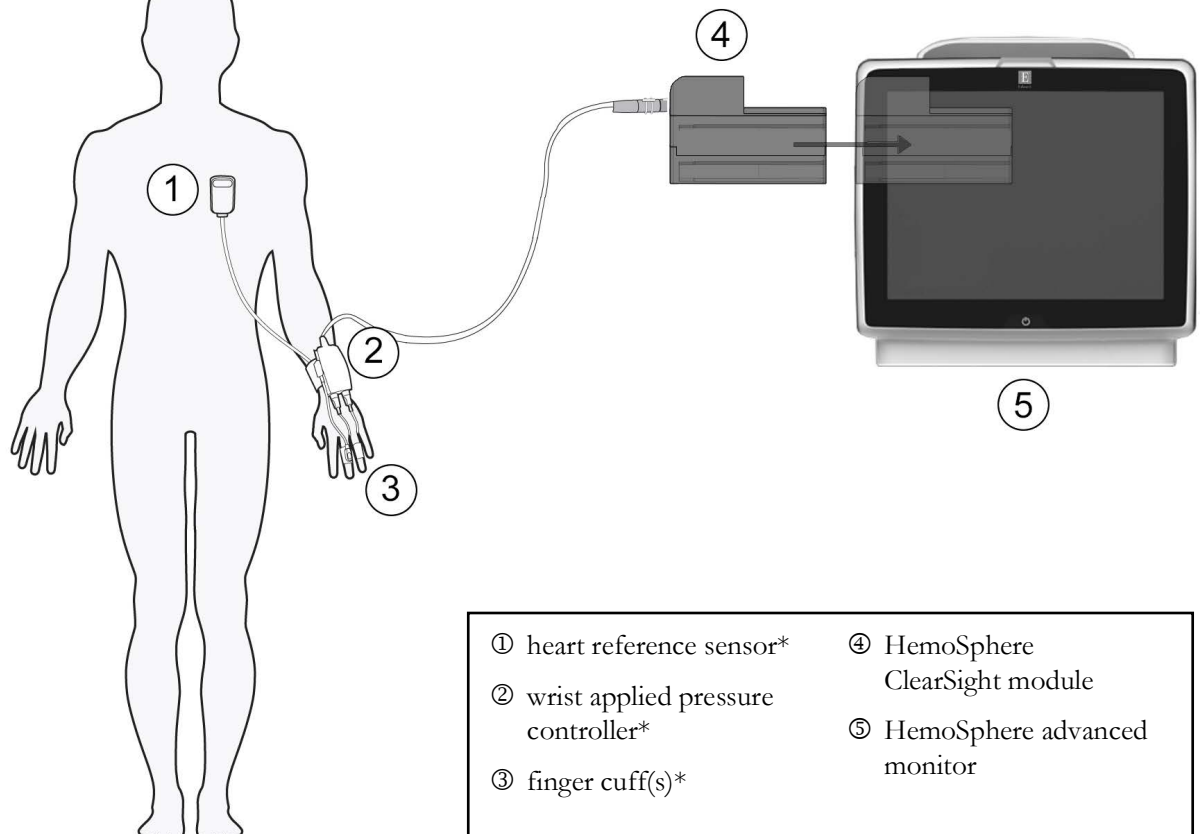
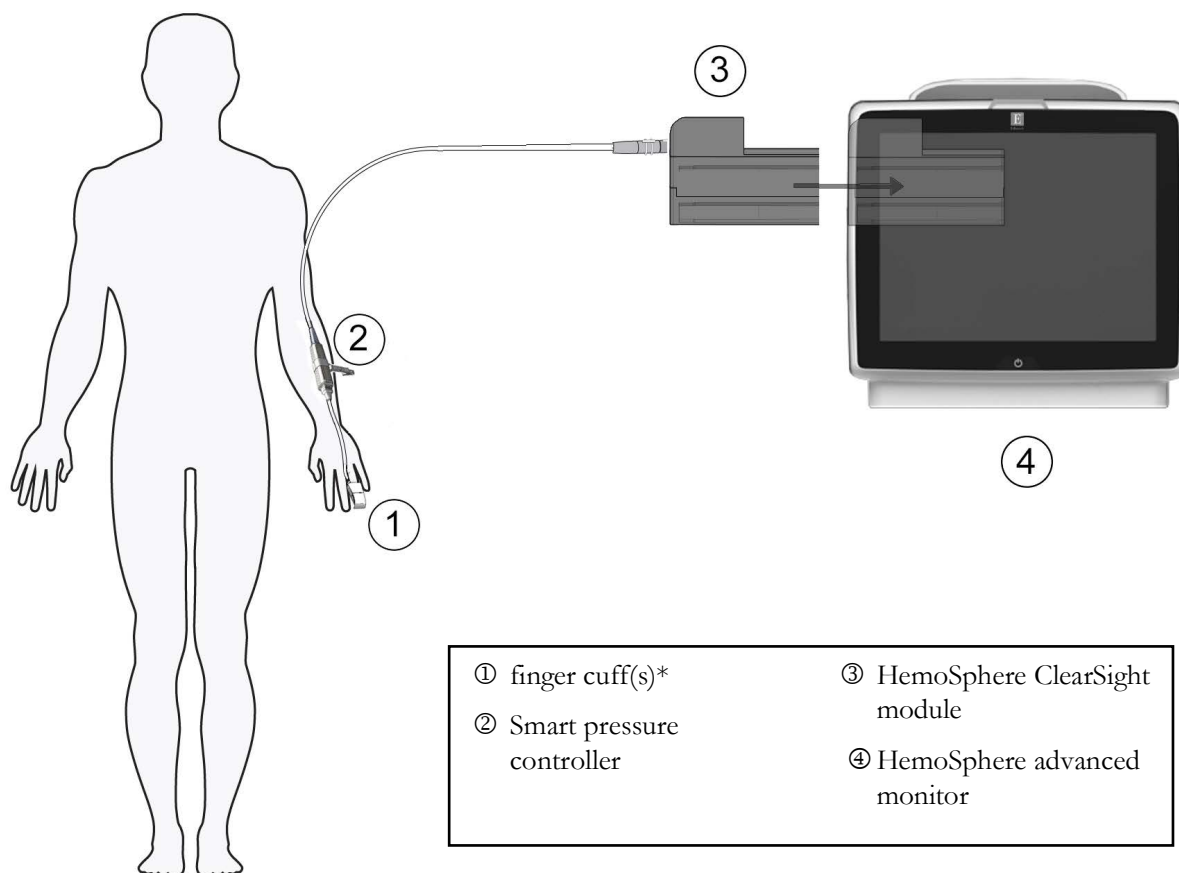

Figure 11-1 HemoSphere non-invasive system connection overview (wrist applied pressure controller)
Figure 11-2 HemoSphere non-invasive system connection overview (Smart pressure controller)
The HemoSphere non-invasive system is composed of the HemoSphere advanced monitor with ClearSight module and connected pressure controller, heart reference sensor, and compatible Edwards finger cuff(s). See system connections in figure 11-1 on page 202. Accurate measurement of the patient's blood pressure and key hemodynamic parameters is based on the Volume Clamp method, Physiocal method and ClearSight technology.
The HemoSphere ClearSight module is compatible with all approved Edwards finger cuffs. See figure 11-1 for an overview of the HemoSphere non-invasive system connections.
NOTE Components indicated by * figure 11-1 and figure 11-2 legend are APPLIED PARTS as defined in IEC 60601-1 that in normal use necessarily come into physical contact with the patient for the HemoSphere non-invasive system to perform its function.
- 3** Attach the pressure controller cable to the HemoSphere ClearSight module. (figure 11-1).
- 1 Insert the Smart pressure controller cable into the HemoSphere ClearSight module port (figure 11-2).